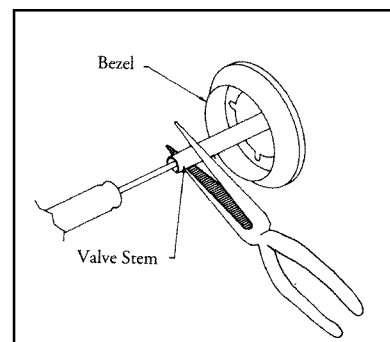

FIG. 33 Low Setting Adjustment
4. While holding the valve shaft with pliers, insert a thin, flat tipped screwdriver into the shaft and while viewing the burner adjust to a minimum stable flame (Fig. 33).